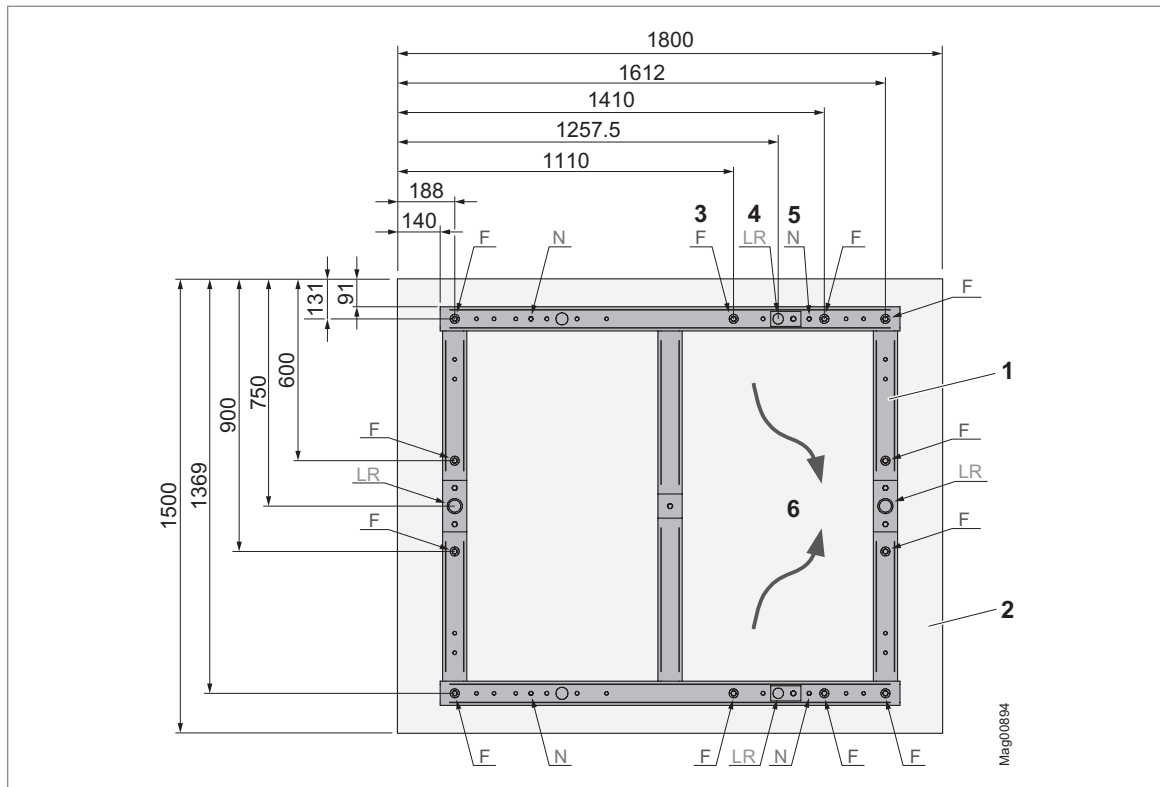
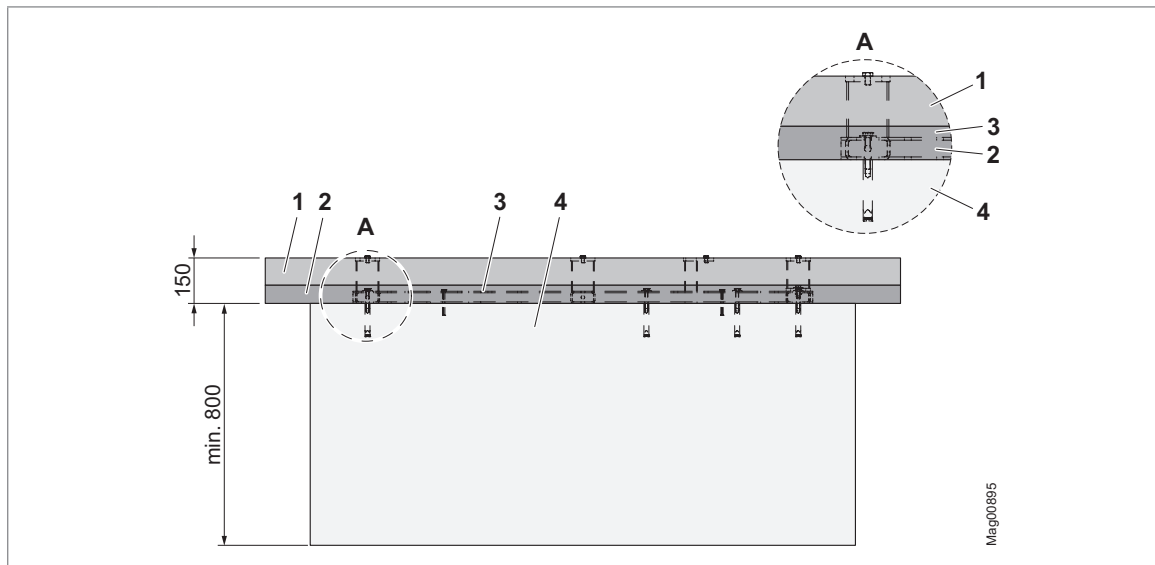

Fig. 16: Foundation and empty conduit plan for base frame FURA T3 – top view (dimensions in mm)
Fig. 17: Foundation and empty conduit plan for base frame FURA T3 – side view (dimensions in mm)
➤ Page 43, Fig. 16 and ➤ Page 44, Fig. 17.
↗ Page 43, Fig. 16 and ↗ Page 44, Fig. 17.
Dimensions of foundation and base frame, position of foundation anchors, levelling screws and empty conduits: ↗ Page 43, Fig. 16.
- › The foundation is precisely 150 mm lower than the finished paving. ↗ Page 44, Fig. 17.